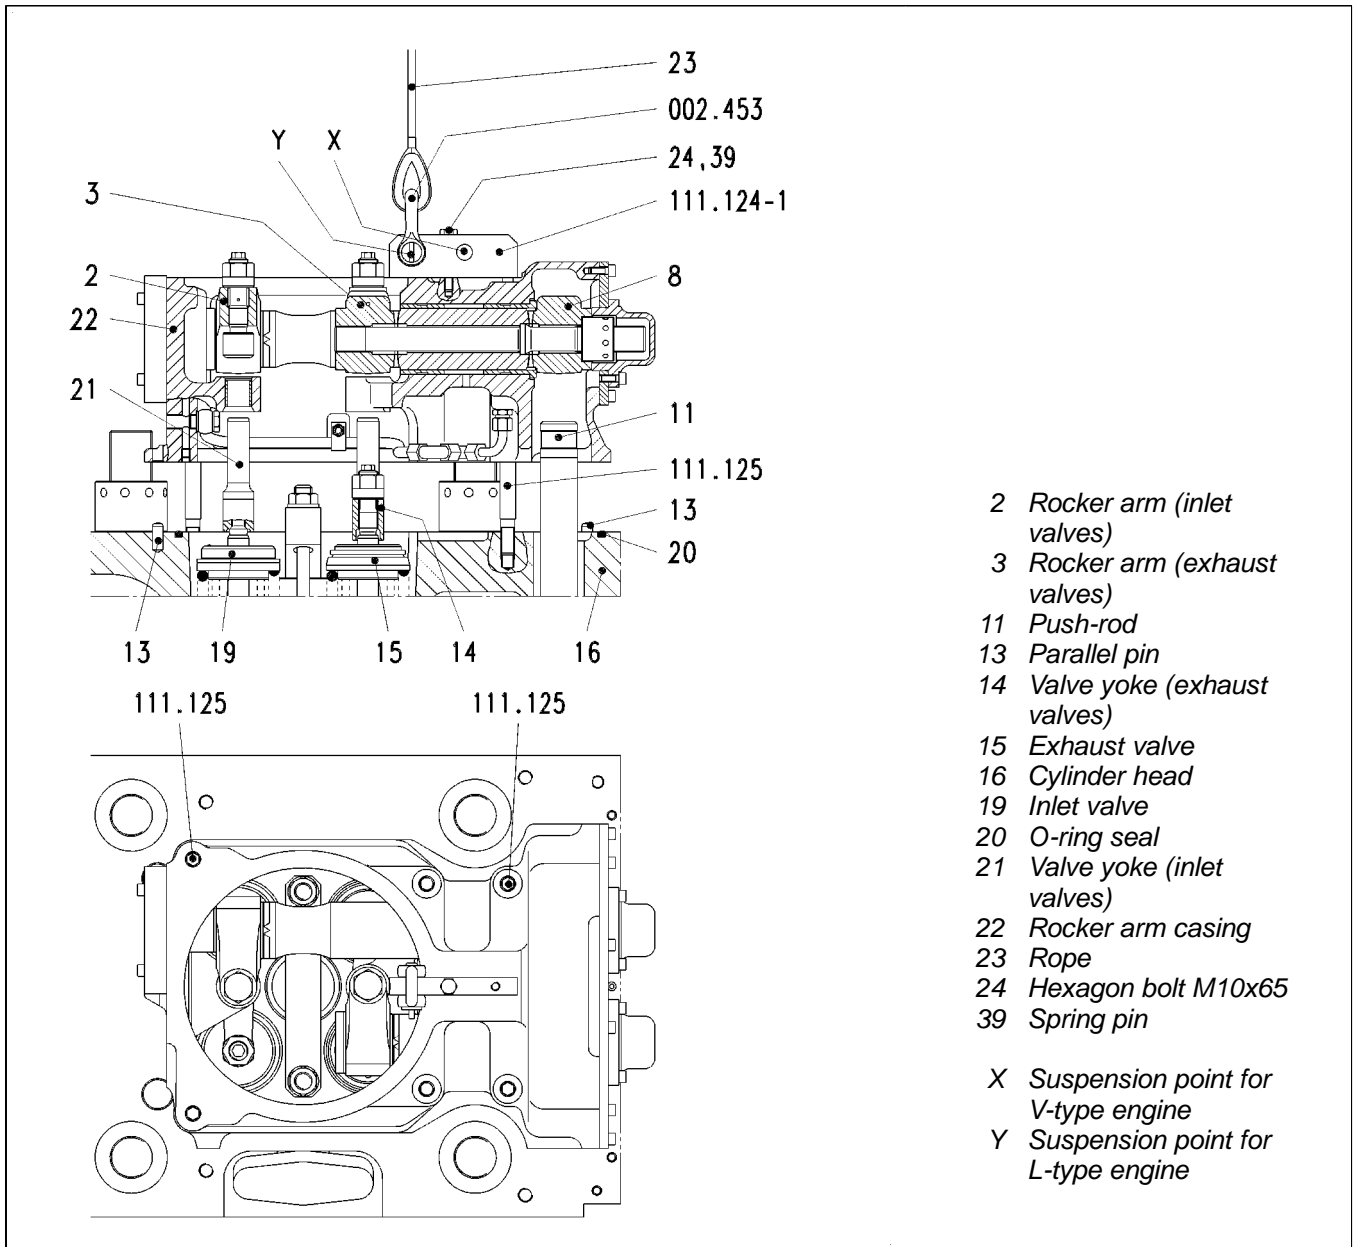

Figure 4. Mounting the rocker arm casing
5. Screw the hexagon socket bolts (6) out and take them off together with washers (7).
6. Screw the guide rods (111.125) into the cylinder head, down to contact (refer to Figure 4).
7. Carefully lift the rocker arm casing, taking due note of the valve yokes (14 and 21) and push-rods (11).
16. **Screw the guide rods (111.125) into the cylinder head, down to contact** (refer to Figure 4).